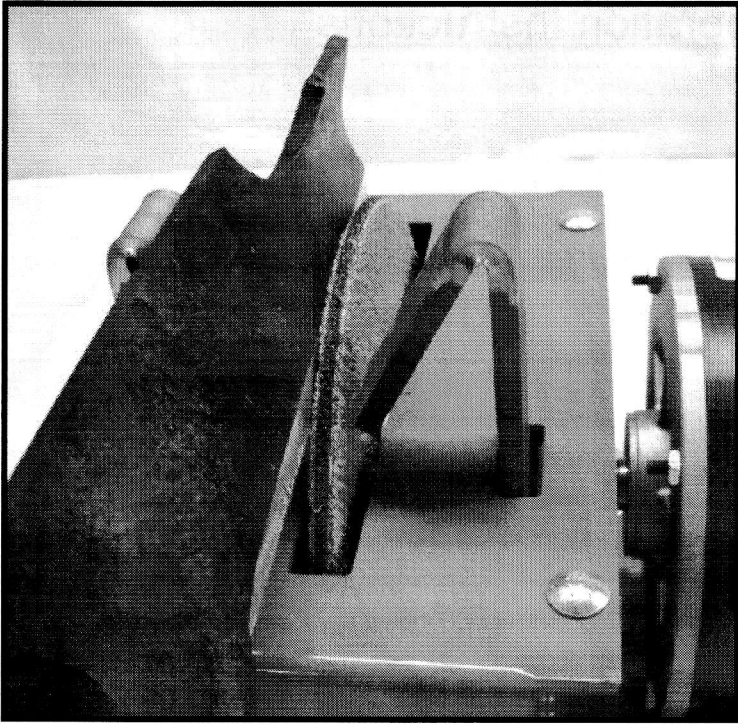

Figure 3: Blade Positioning
3) Now that the bottom of your blade is flat inspect the side to be sharpened to see if any damaged sections stand out from the blade's surface. Flatten these first as you did on the underside of the blade in Step 2 by allowing the blade to slide slowly down from the top of the guide, grinding the most damaged sections first until the blade rests flat against the wheel as in Figure 3. **Attempting to sharpen a blade without first flattening these gouges may cause damage to your grinding wheel.** Now that your blade's surfaces are flat you can begin sharpening.
4) For standard rotation blades you will use the left blade guide. To sharpen a reverse rotation blade you would use the right blade guide. Figure 3 shows how a standard rotation blade should sit on the guide. The blade's underside will sit flat on the blade guide, which will hold the section of the blade to be sharpened parallel to the grinding wheel. Keeping the bottom of the blade flat against the blade guide while grinding will ensure a consistent, properly angled bevel on your blades.